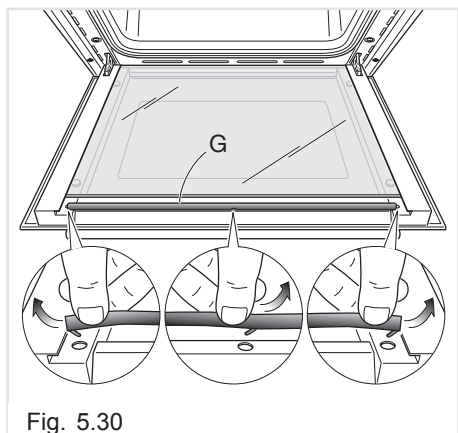

Fig. 5.30
- Remove the seal "G" by unhooking the no. 3 fixing hooks (fig. 5.30).